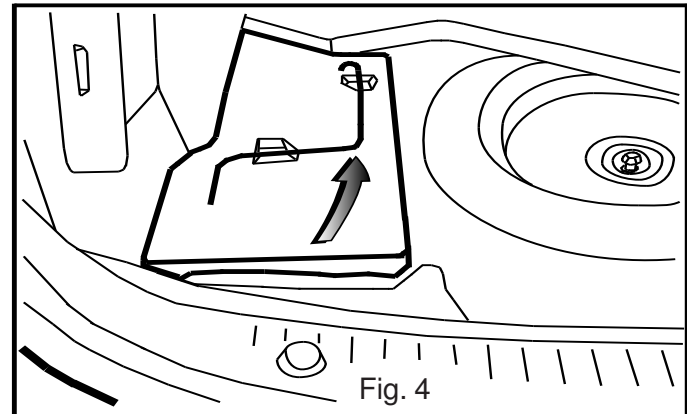

Fig. 4
6. Push the left side foam panel forward so trunk sill plate can be removed. (Fig.4)